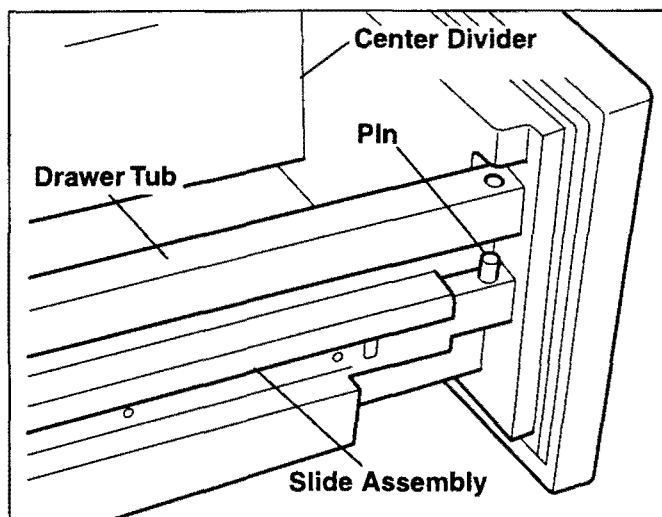

Figure 2-3. Drawer Removal
2. Drawer Removal: To remove all other drawers, pull drawer forward 6" to 10", lift up off of the pins at front. Continue to pull drawer forward off of slide assembly (Figure 2-3).